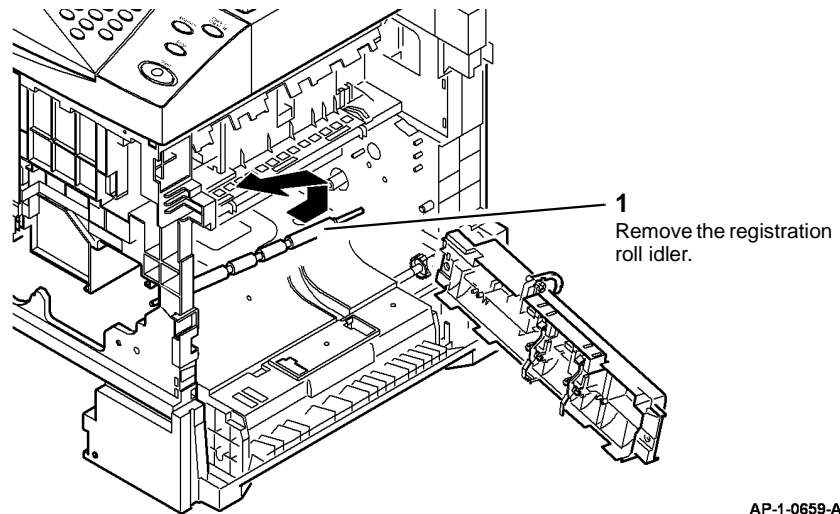

Figure 11 Registration Roll Idler Removal
20. Remove the registration roll idler, Figure 11.